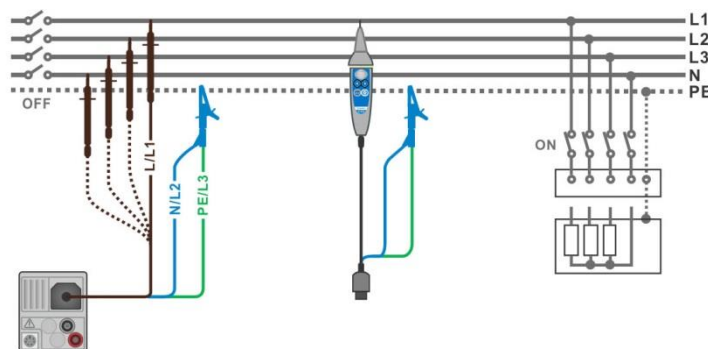
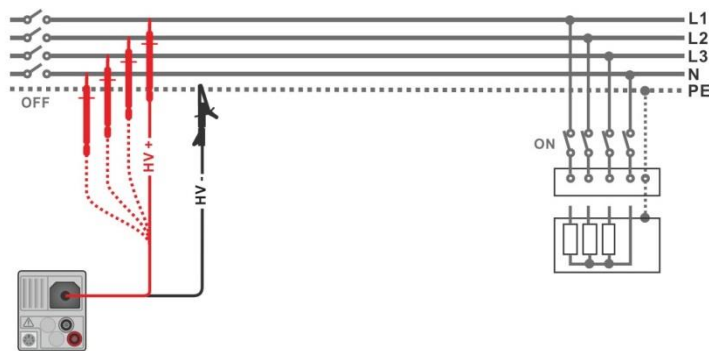

Figure 7.11: Connection of 3-wire test lead and Tip commander ($U_N \leq 1 \text{ kV}$)
Figure 7.12: Connection of 2.5 kV test lead ($U_N = 2.5 \text{ kV}$)
- › Connect test leads to object under test (see **Figure 7.11** and **Figure 7.12**).